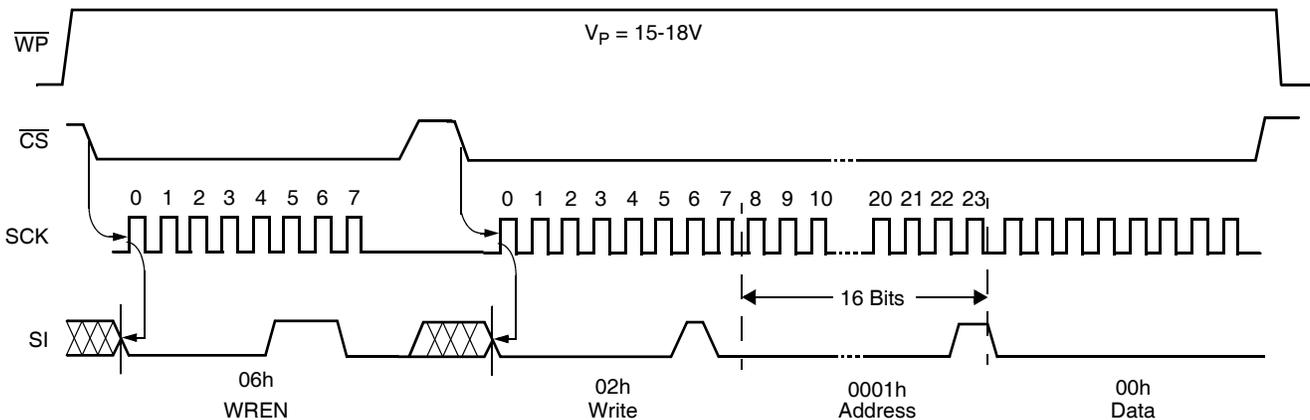

FIGURE 1. SET  $V_{TRIP}$  LEVEL SEQUENCE ( $V_{CC} =$  DESIRED  $V_{TRIP}$  VALUE)
0000 0001	Write status instruction—followed by: Block lock/WDT byte: (See Figure 1) 000WD 1 WD 2 000 --->no block lock: 00h-00h--->none of the array 000WD 1 WD 2 001 --->block lock Q1: 0000h-00FFh--->lower quadrant (Q1) 000WD 1 WD 2 010 --->block lock Q2: 0100h-01FFh--->Q2 000WD 1 WD 2 011 --->block lock Q3: 0200h-02FFh--->Q3 000WD 1 WD 2 100 --->block lock Q4: 0300h-03FFh--->upper quadrant (Q4) 000WD 1 WD 2 101 --->block lock H1: 0000h-01FFh--->lower half of the array (H1) 000WD 1 WD 2 110 --->block lock P0: 0000h-000Fh--->lower page (P0) 000WD 1 WD 2 111 --->block lock Pn: 03F0h-03FFh--->upper page (PN)